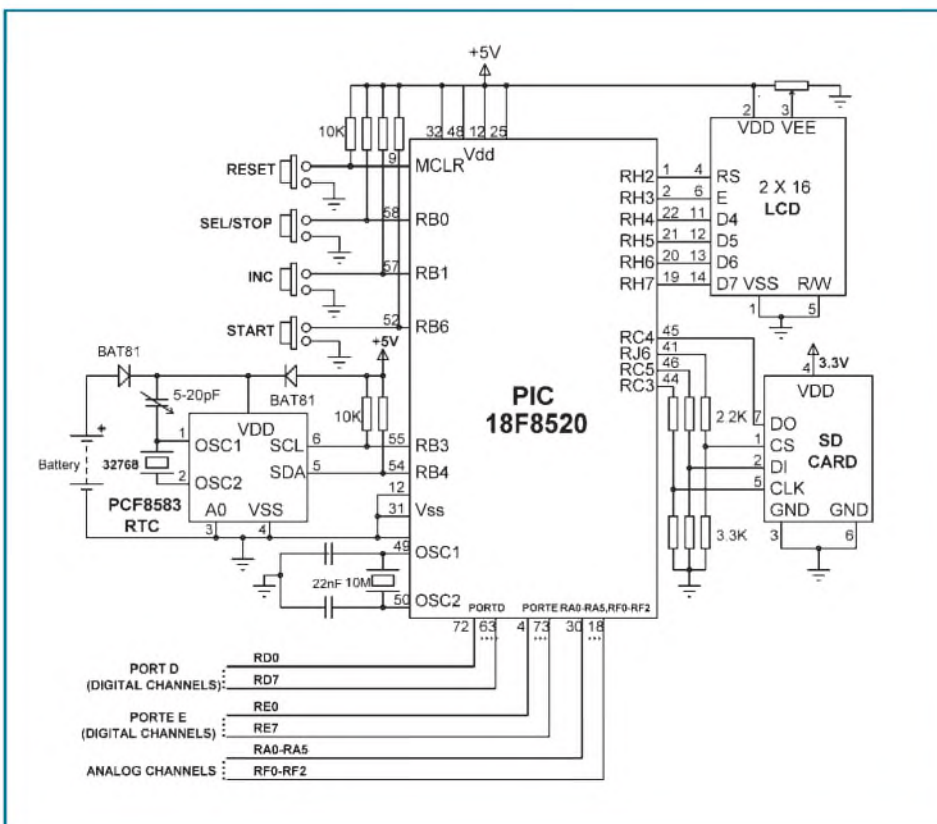

Figure 3a: Circuit diagram of the data logger
**Figure 3a** shows the circuit diagram of the data logger. This circuit is based on the PIC18F8520 microcontroller, but other PIC18 family members can also be used instead if required.